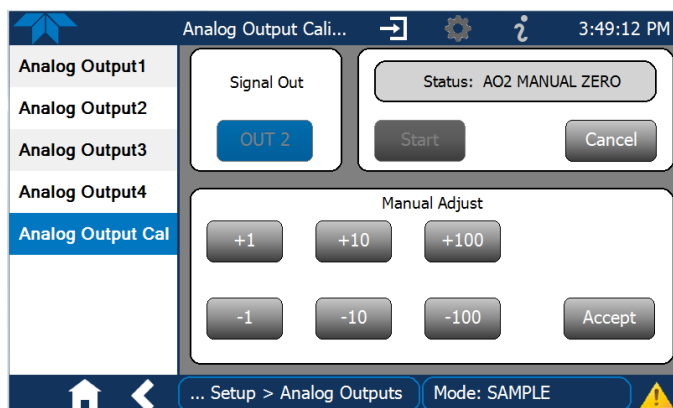
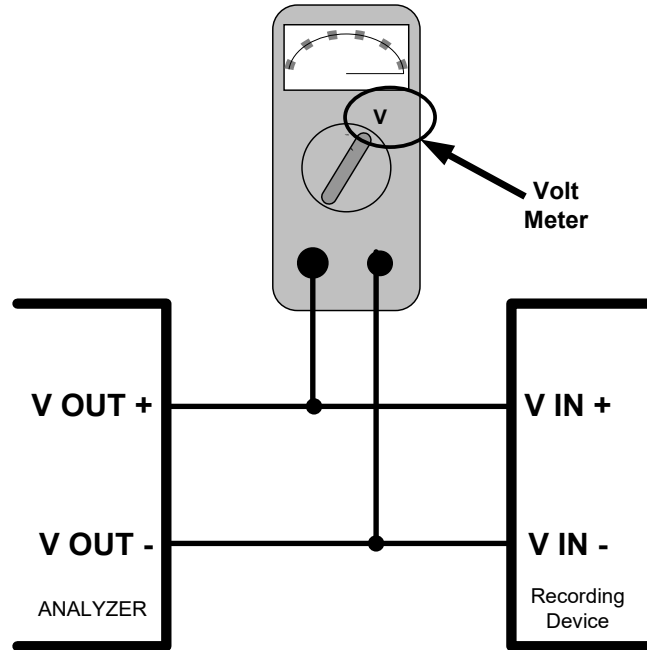

Figure 2-52. Analog Outputs Manual Calibration Screen (AOUT2 Example)
Figure 2-53. Setup for Checking / Calibrating DCV Analog Output Signal Levels
- MANUAL for individual calibration (Figure 2-52) of analog outputs where manual adjustments can be made (the only calibration type allowed when Current is selected for the Range). See Sections 2.5.8.1 and 2.5.8.2 .
It is possible to manually calibrate the voltages by using a voltmeter connected across the output terminals (Figure 2-53) and changing the output signal level in the Manual Adjust field of the Analog Outputs Calibration screen (Figure 2-52). Refer to Table 2-13 for voltage tolerances.